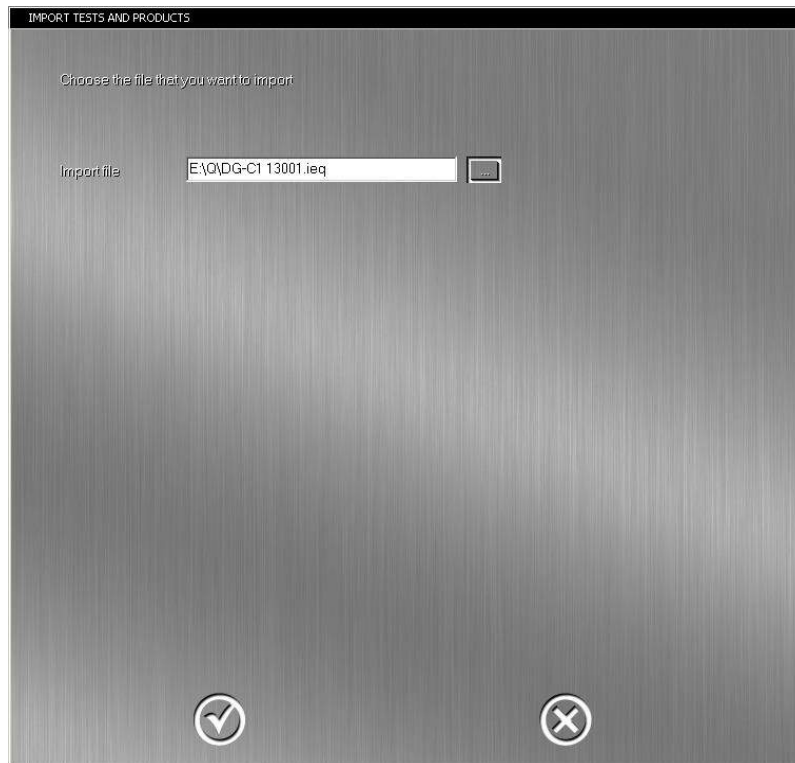

Figure 9.44. Importing the Values Table of a Product Lot. Step 1
- Browse the file “**DG-Ref XXXXX.ieq**”, “**DG-C1 XXXXX.ieq**” or “**DG-C2 XXXXX.ieq**” (e.g. in an **USB data storage device**) and press **Accept** (Figure 9.44).